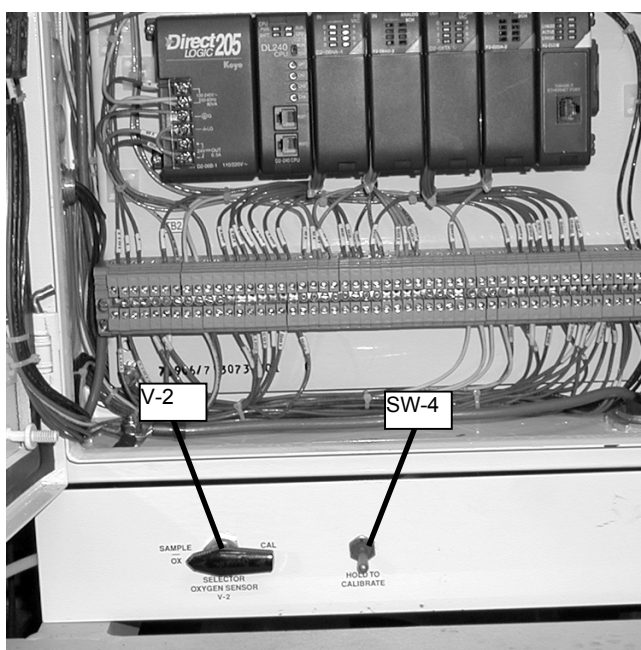

Figure 15. Oxygen Sensor Calibration Switch.
- e. Push the calibration toggle switch (SW-4) up momentarily then release it (see Figure 15). The low purity light (LT-1) will begin flashing (see Figure 3).
- f. Switch the oxygen sensor flow selector valve (V-2) to 'CAL' position (see Figure 15).